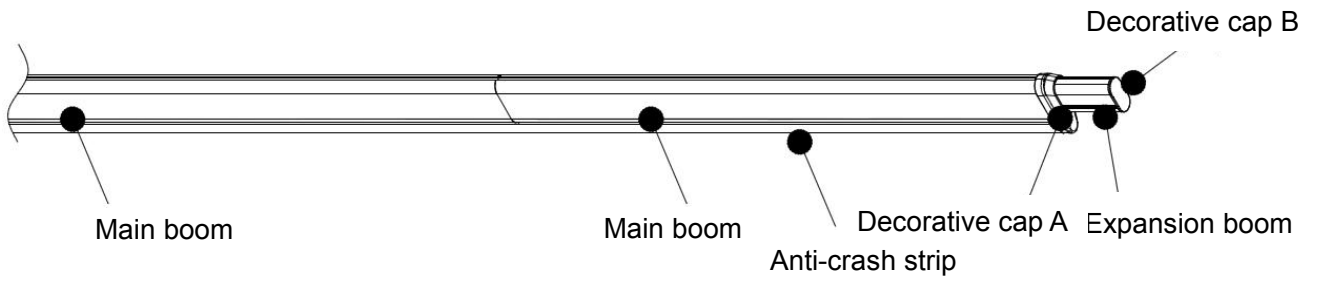

Figure 3-5 Appearance of the Straight Boom
- 6) Install the anti-crash strip, as shown in Figure 3-5.